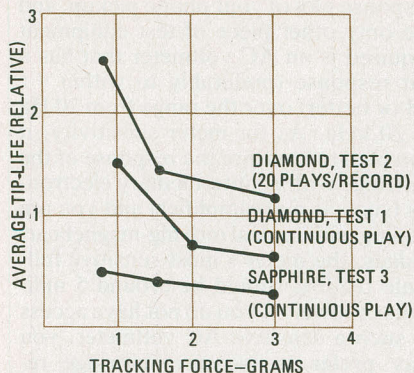
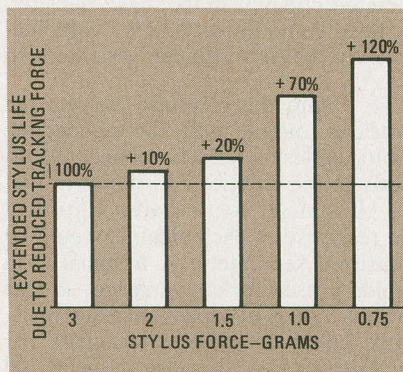

FIG. 5—TIP WEAR depends on the tip material and the tracking force.
FIG. 6—AVERAGE TIP LIFE increases dramatically as the tracking force is reduced.
Record and stylus tip wear tests conducted over the years by Shure Bros. have yielded some results worth noting. For example, their data shows that diamond tips have a significantly longer life than sapphire, as shown in the plotted curves of Fig. 5. Another test revealed the increased abrasive action of playing a stylus continuously on the same record as opposed to a limited number of plays (20) on several different records. Downward tracking force is also a major factor of tip life, regardless of stylus tip shape, as shown in Fig. 6. These tests show a trend toward a faster rate of wear as tracking force increases.